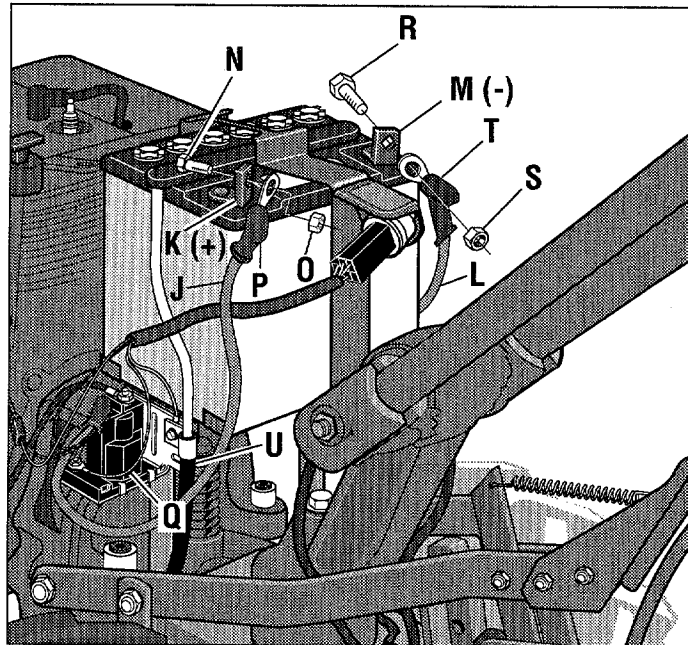

Figure 2-19: Battery cable assembly.
1. Use a 5/8" long screw and 1/4-20 hex nut to connect the positive (+) battery cable (J, Figure 2-19) to the positive (marked +) battery post (K). Make sure that this is the cable on the left side, with one end attached to the solenoid (Q).
2. Slide the black rubber boot (P) completely over the battery post and cable connector.
3. Use a 5/8" long screw and 1/4-20 hex nut to connect the negative (-) battery cable (L) to the negative (marked -) battery post (M) and secure with screw (R) and nut (S).
4. Slide the black rubber boot (T) completely over the battery post and cable connector.
5. Make sure that the lower end of the vent tube shield (U) is positioned in front of the wheel shaft axle. Move it there if necessary.